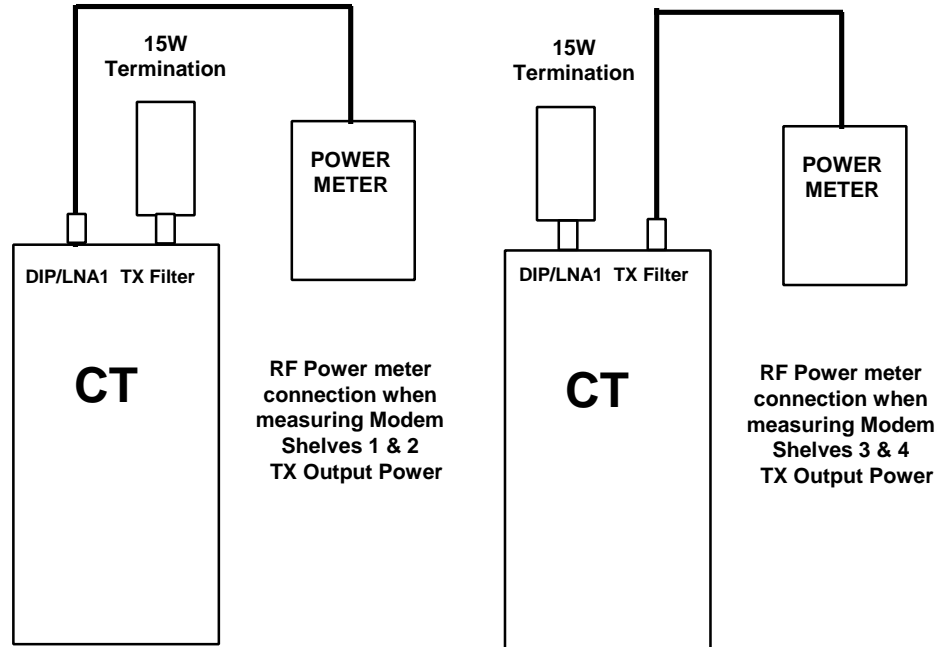

Figure 7-9. Power Level measurement Test Set-up
- c) If measuring the power output on shelf 3 and/or 4 connect the Power Meter to the power meter to the N-Type connector on the TX filter card as shown in Figure 7-9.